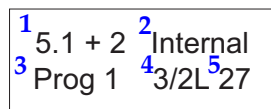

Figure 3-3 Default Status Menu Screen
1. At the main status screen, shown in the Figure 3-3, press the **Setup** button.
The default display when the unit powers up is the top screen of the status menu shown in Figure 3-3.
The example in Figure 3-3 includes two programs: A 5.1 mix and a 2-channel mix. Metadata for the programs is controlled separately.